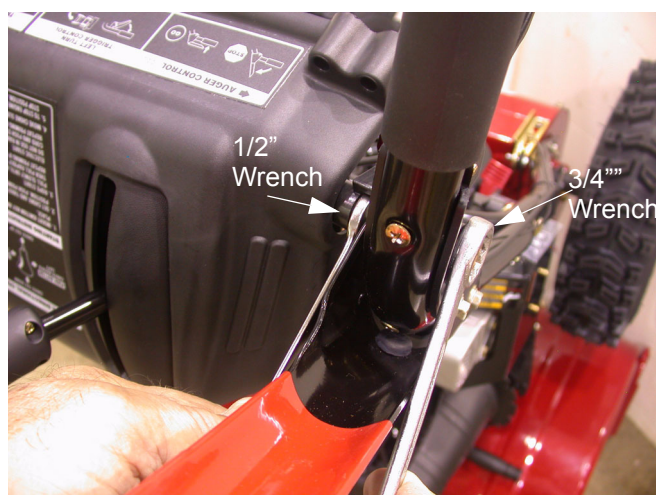

Figure 15.3
- 15.3. Remove the shoulder bolt with a 3/4" wrench and 1/2" wrench. See Figure 15.3.